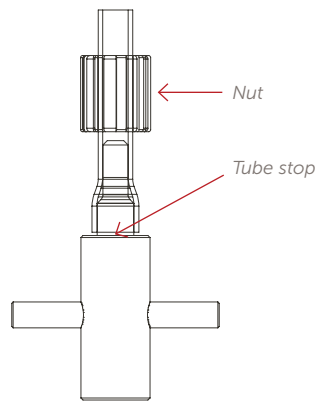

Figure 3.
- Remove the PFA tubing from the heat source. Immediately push the flaring mandrel (see Figure 3) into the tubing until the end of the tubing reaches the tube stop. Refer to Entegris' *Fluid Handling Systems* catalog or web site for available mandrel configurations.